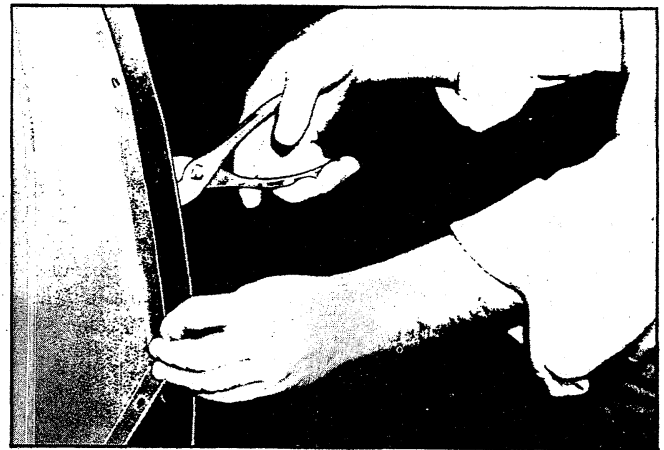

Fig. 25 - Replacing Fender Seal
1. Inspect condition of cowl-to-fender seal and replace, if necessary, as shown in Figure 25.